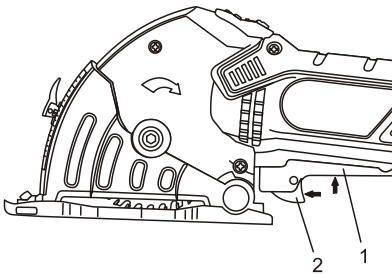

Fig. 6
1. To turn the multi-cut saw ON, slide your index finger forward on the trigger switch (1) until it moves the lock-off trigger (2) forward (Fig. 6).
7. Turn switch ON as outlined in Fig. 6 on left.